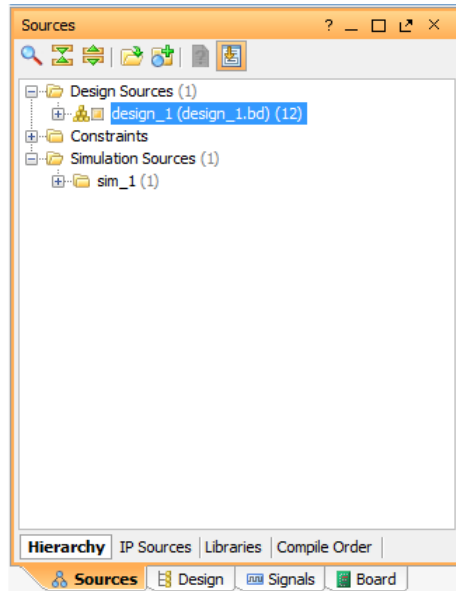
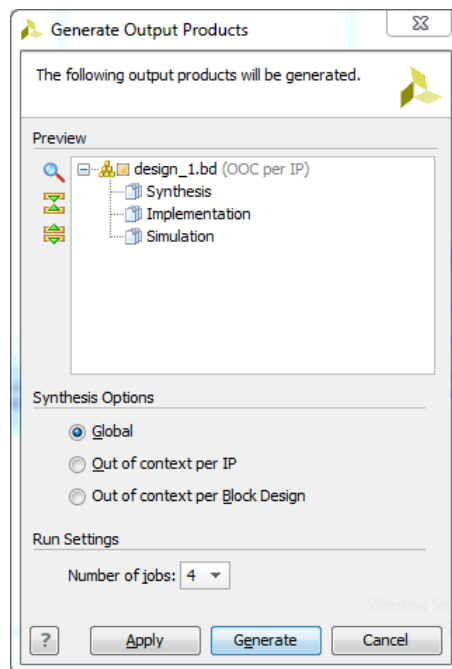

Figure 24: Sources Window
Figure 25: Generate Output Products Dialog Box
1. In the Sources window (see Figure 24), select the block design, right-click it and select **Generate Output Products**. Alternatively click **Generate Block Design** in the Flow Navigator. The Generate Output Products dialog box opens (see Figure 25).